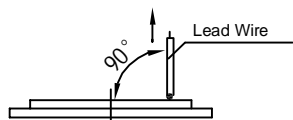

Fig.3.1 Direction of Lead Wire
b) Wire to be soldered on ceramic at the edge&should be pulled up at 90° The element should be hold on bottom and wire should be pulled up .It should withstand at least for 2.5N force(Fig.3.1)